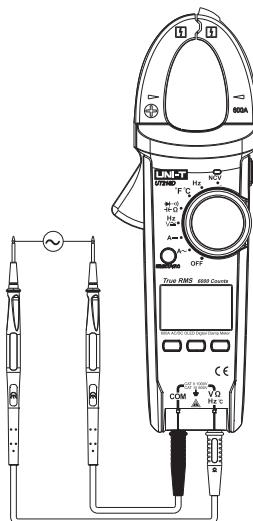

Fig. 11
**10. Measurement of frequency (shown as Fig. 11)****(1) Insert pens**